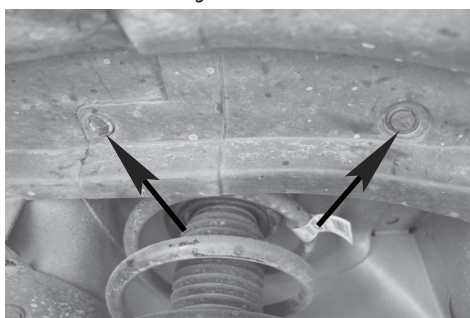

Figure 5
11. Starting at the top of the wheel well remove the two clips shown in **Figure 5**. Route a fish tape or stiff wire down to the bottom right of the wheel well.